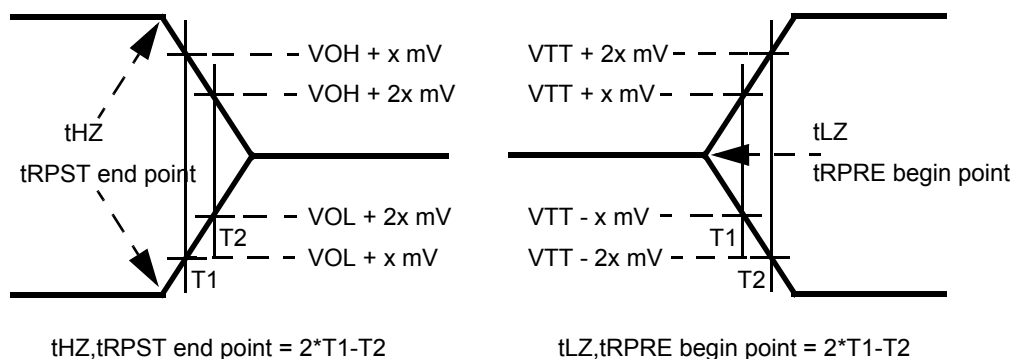

Figure 17 - Method for calculating transitions and endpoints
- tDAL = 5 + (15 ns / 3 ns) clocks = 5 + (5) clocks = 10 clocks.
18. tHZ and tLZ transitions occur in the same access time as valid data transitions. These parameters are referenced to a specific voltage level which specifies when the device output is no longer driving (tHZ), or begins driving (tLZ) . Figure 17 shows a method to calculate the point when device is no longer driving (tHZ), or begins driving (tLZ) by measuring the signal at two different voltages. The actual voltage measurement points are not critical as long as the calculation is consistent. tLZ(DQ) refers to tLZ of the DQS and tLZ(DQS) refers to tLZ of the (U/L/R)DQS and  $\overline{(U/L/R)DQS}$  each treated as single-ended signal.
19. tRPST end point and tRPRE begin point are not referenced to a specific voltage level but specify when the device output is no longer driving (tRPST), or begins driving (tRPRE). Figure 17 shows a method to calculate these points when the device is no longer driving (tRPST), or begins driving (tRPRE) by measuring the signal at two different voltages. The actual voltage measurement points are not critical as long as the calculation is consistent.